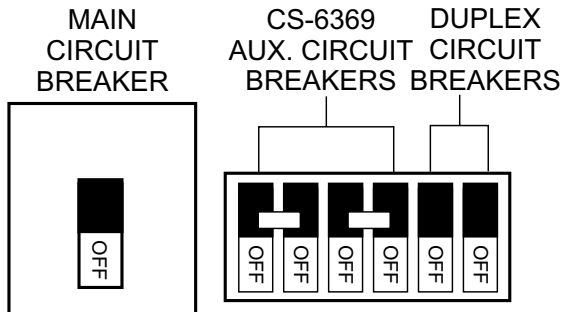

Figure 49. Main, Aux. and Duplex Circuit Breakers (OFF)
1. Place both the **main, aux. and duplex** circuit breakers as shown in Figure 49 to the **OFF** position.